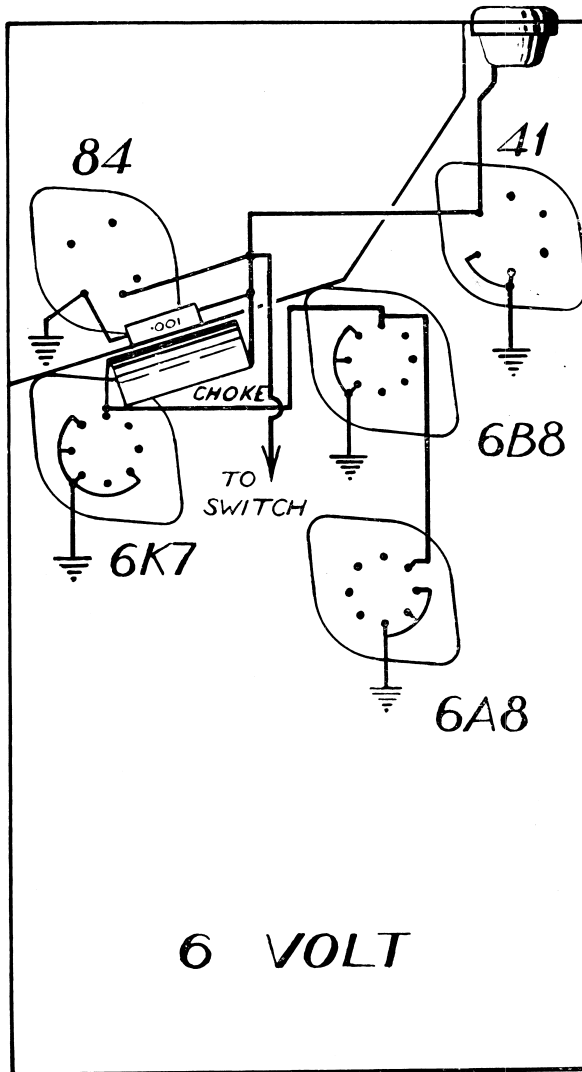
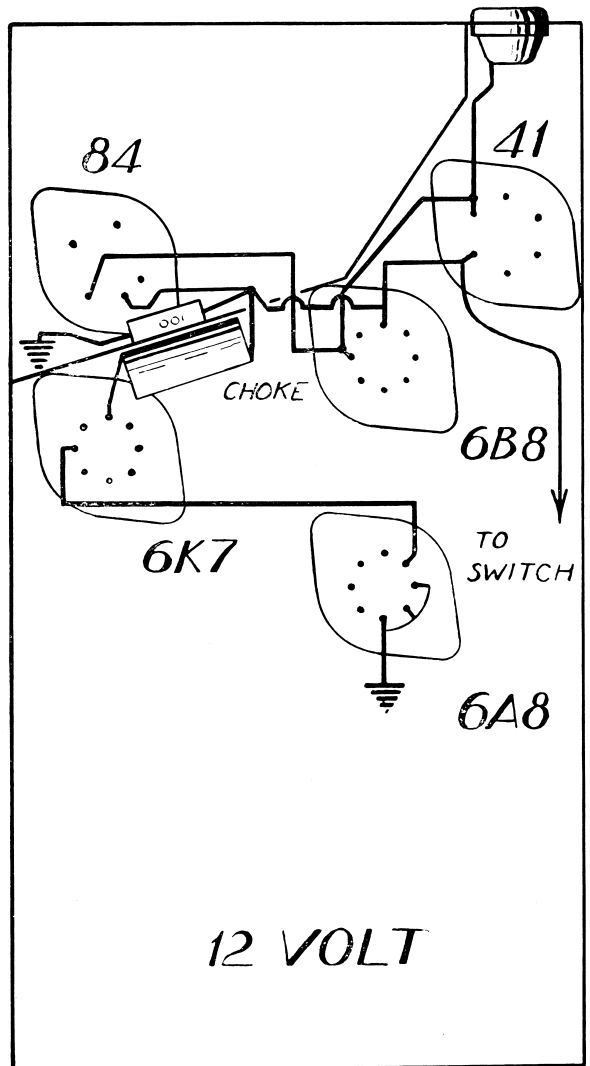

FIG. 1.
FIG. 2.
1. Fit a small hash choke (PT137) in Model 6395 filament circuit to isolate the first three tubes (6A8, 6K7 and 6B8) from the rest of the filament and field circuits, and a .001mfd. mica condenser from the "A" side of the choke to chassis as shown in Fig. 1. In Model 12395, the hash choke will isolate only the 6A8 and 6K7 filaments as shown in Fig. 2.